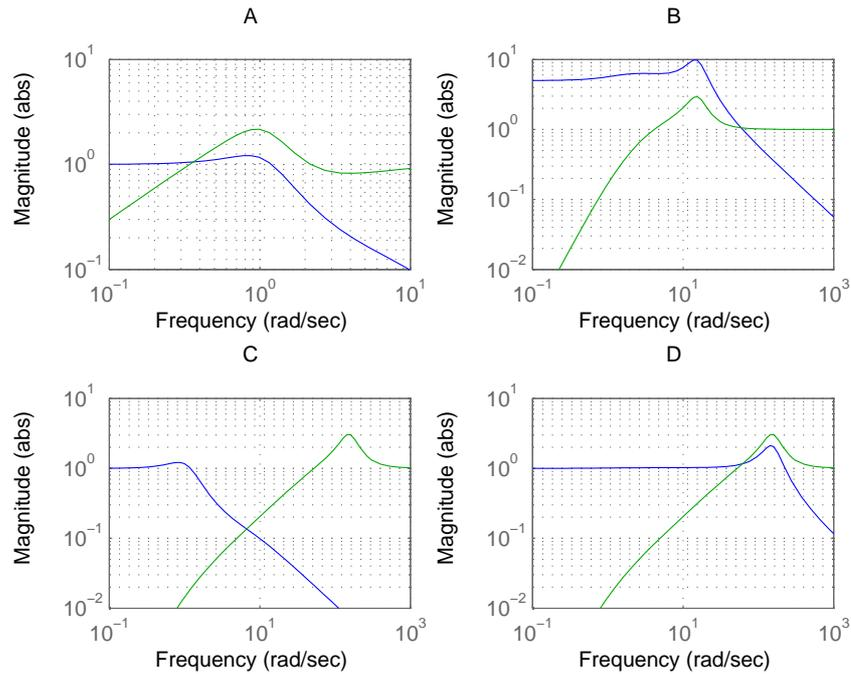

Figure 14.3 Magnitude plots of S and T in problem 6.
- c. Figure 14.3 shows four plots, where one of the plots shows the sensitivity and complementary sensitivity function of a closed loop system discussed in problem b, with $\omega_0 = 1$ and a particular choice of $C_2(s)$. Which plot?